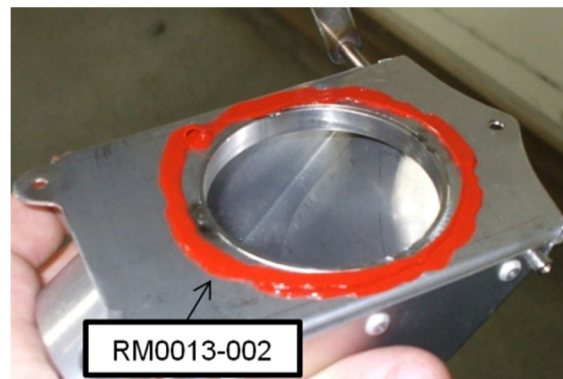

Figure 2
6. Apply a small bead of High Temp RTV around the perimeter of the round hole in the Cabin Heat Box (SC57350-003) (Figure 2), then mount the cabin heat box to the firewall using (3) AN507C632R8 screws, (3) HDW-A3236-012-935 countersunk washers, (3) AN960-6 flat washers and (3) AN363-632 high temp nuts. The screws should point towards the engine with the countersunk washers under the heads of the screws.